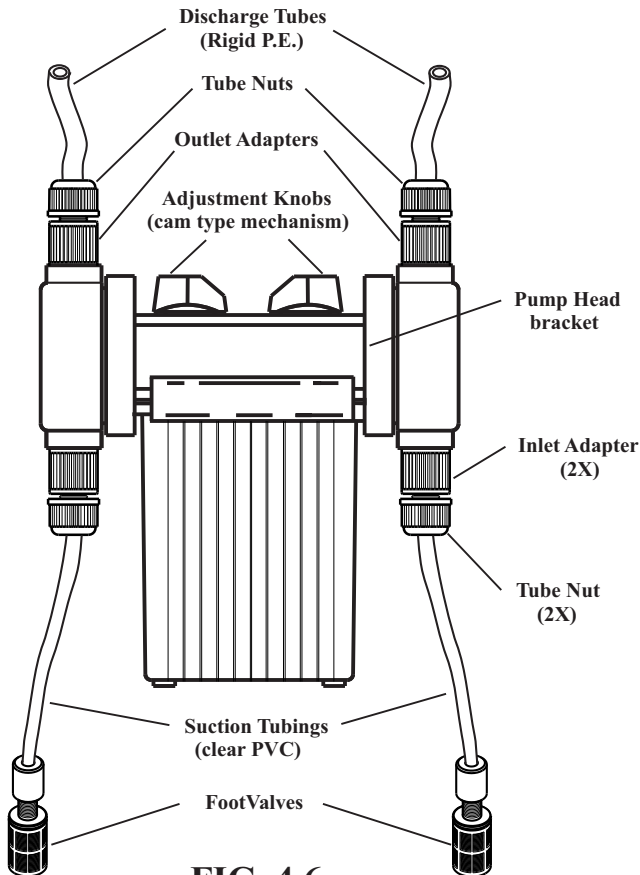

FIG. 4.6
- 4.3.1 Inlet Tubing** - Locate the inlet fitting of the pump head, see fig 4.6. Remove the tube nut. Push the clear PVC suction tubing onto the compression barb of the fitting. Use the tube nut to secure the tube. Hand tighten only.
- 4.3.3 Outlet Tubing** - Locate the outlet fitting of the pump head, see fig 4.6. Remove the tube nut. Push the opaque outlet (discharge) tubing onto the compression barb of the fitting. Use the tube nut to secure the tube. Hand tighten only.